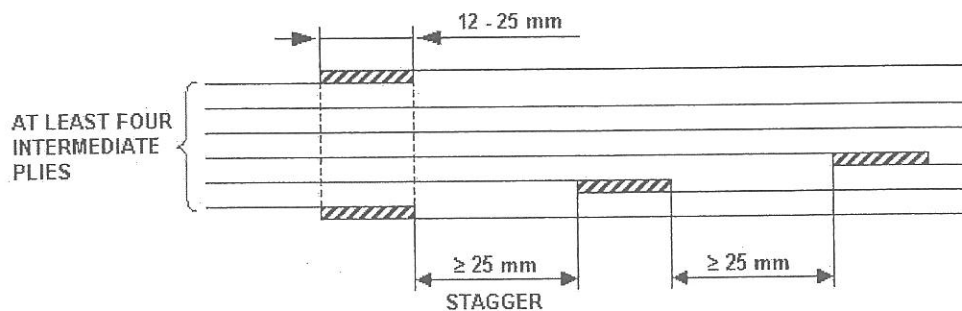
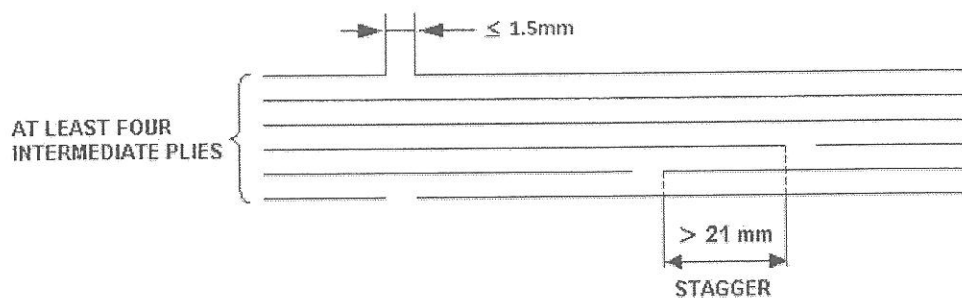

Figure 3 : Overlap Splice
Figure 4: Butt splice.
- 2) Stagger is defined in this specification, as the distance between two consecutive splices. If there are at least four intermediate plies between two splices, it is not necessary to apply the stagger required (**See Figure 3 and Figure 4 page 10**). For butt splices, this last consideration applies only to plies in the same direction.